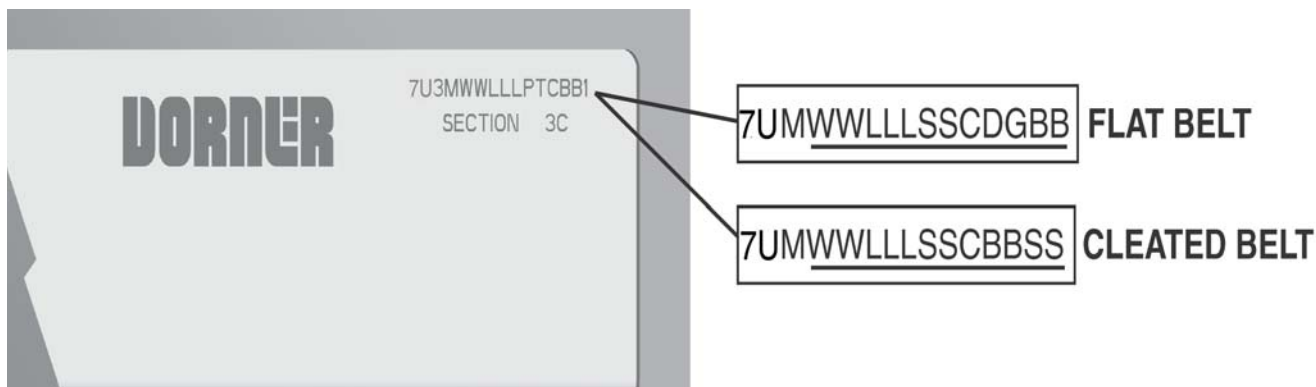

Figure 85
Refer to the model number on the conveyor frame (**Figure 85**). From the model number, determine conveyor width (WW), length (LLL), drive stand location (S), idler stand location (S), cleaning options (C), drive/pulley type (D), profile (G) and belt material (BB).
Refer to the model number on the conveyor frame (**Figure 85**). From the model number, determine conveyor width (WW), length (LLL), drive stand location (S), idler stand location (S), cleaning options (C), cleated belt material (BB) and cleat spacing (SS).